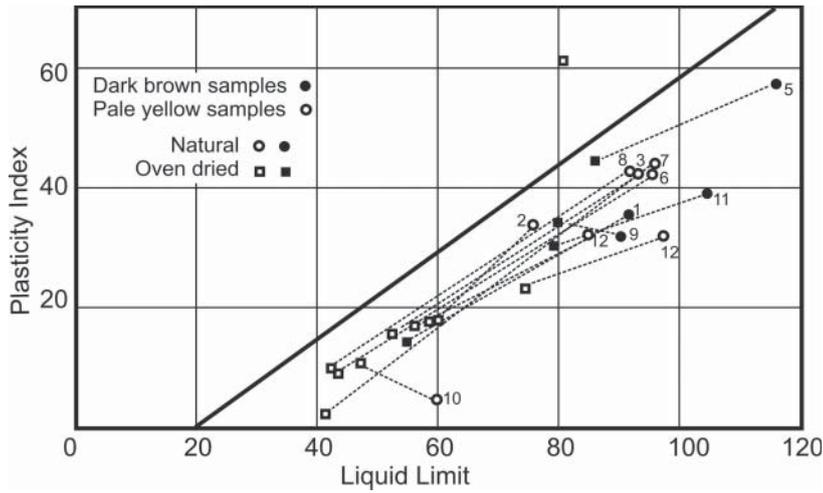

Figure 3. Atterberg limits on the Plasticity Chart.
The results of the tests are summarised in Tables 1 and 2, and set out in graphical form in Figures 3 to 6. Comments on these results are as follows:
4. The samples occupy the normal position of volcanic ash soils on the Plasticity Chart (Figure 3) and all undergo some loss of plasticity after oven drying. In this respect, there is no significant difference in behaviour between the brown samples and the light coloured samples. Loss of plasticity is generally a good indicator of allophone content, at least in the writer’s view. These tests do not suggest that the allophone content is significantly different between the two soil types.